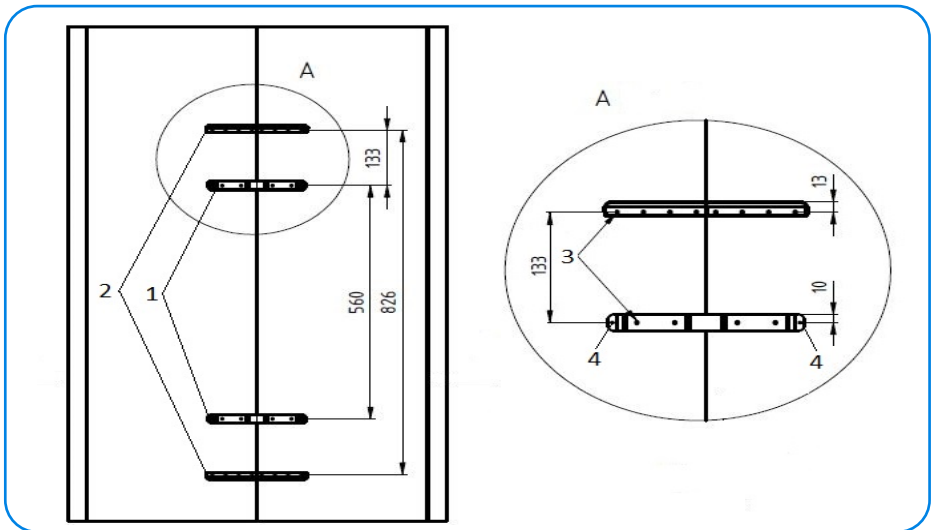

Fig. 3.3 Arrangement of mounting brackets and covers for corner installation of VitalSun heater.
1. Fasten the brackets to the wall with the mounting screws (pos. 3, tab. according to the layout shown in the drawing (Fig. 3.3). Ensure that the supports are level. Ensure that the weight of the heater does not rest solely on the wall panels.